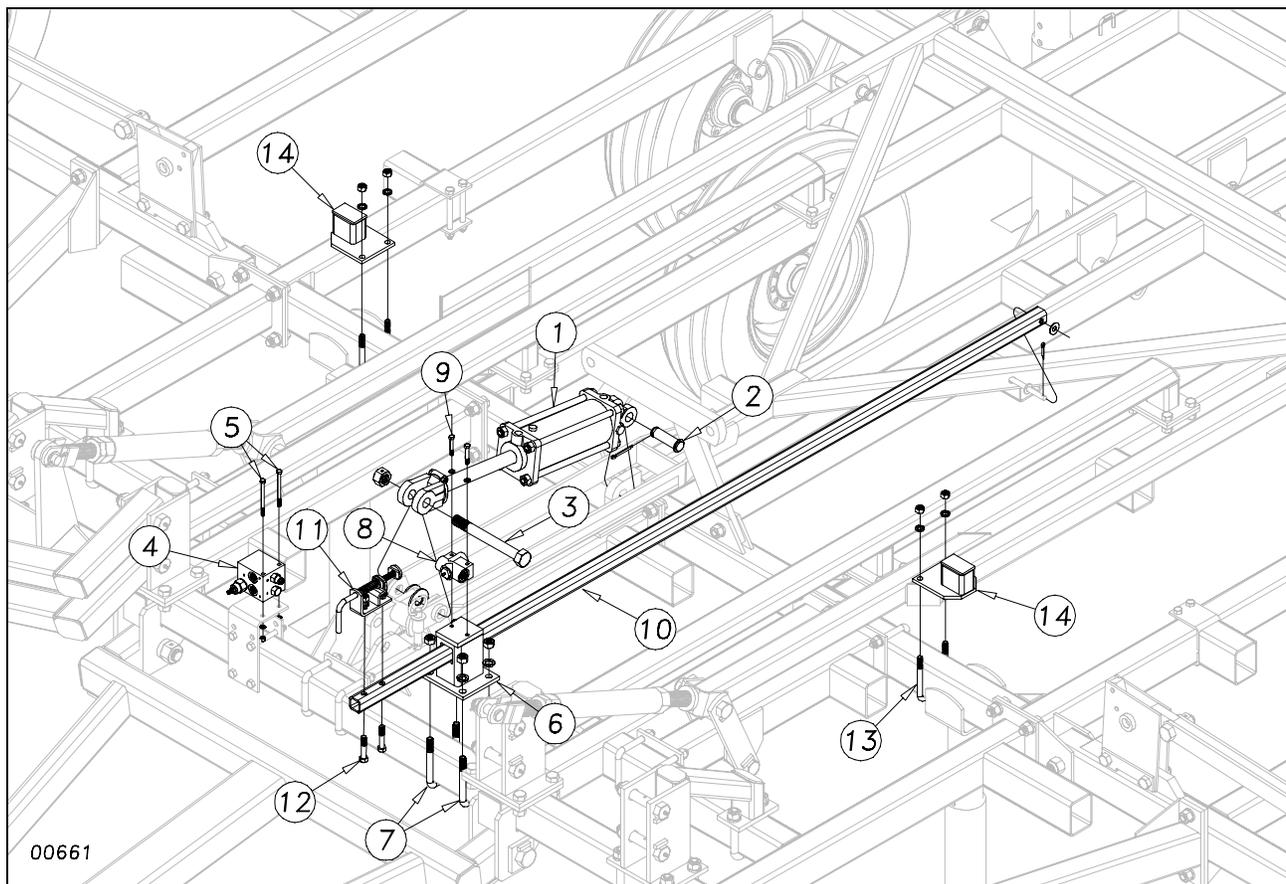

Figure 7
Connect the master lift cylinder (1) to the center frame as in Figure 7. Connect the rod end to the lug on the Level Bar with the 1 x 9, Gr.8 hex bolt (3) and lock nut. Place a 1" flat washer on each side of the lug to keep the hardened bushings from coming out.